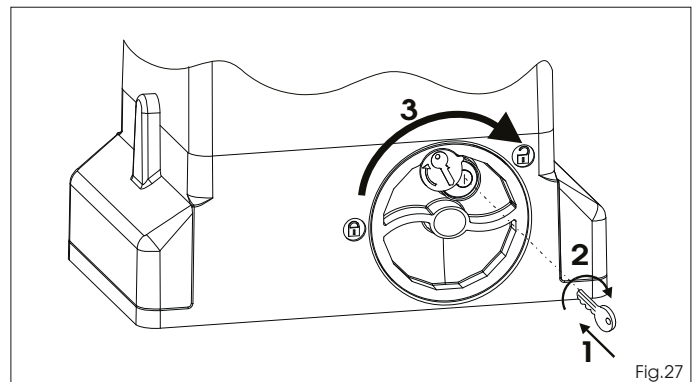

Fig. 27
- 1) Insert the key provided and turn it clockwise as shown in Fig. 27 ref. 1 and 2.
- 2) Turn the release system clockwise, until the mechanical stop is reached, Fig. 27 ref. 3.